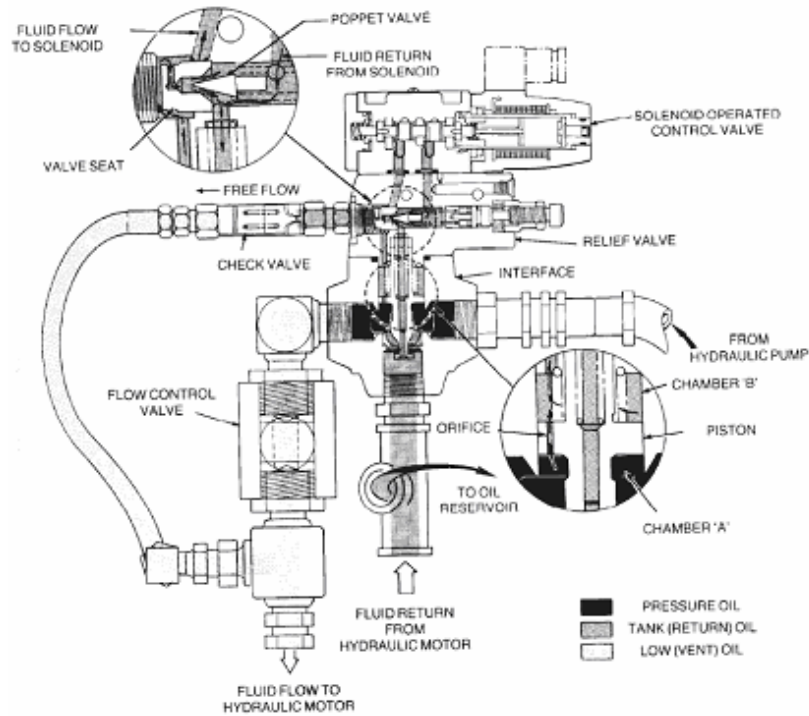

Figure 17 Fluid Flow – Pump Start Switch Off
46. The solenoid controlled relief valve assembly, which comprises the solenoid operated control valve, the relief valve and the interface assembly, directs the flow of fluid within the hydraulic circuit either to the motor or to the oil reservoir. With the PTO ON and the PUMP START switch OFF (solenoid de-energized), pressurized hydraulic fluid flows through the interface to the hydraulic motor, and through the orifice in the piston to the relief valve (Figure 17). As the solenoid is in the de-energized position, fluid flows through the solenoid valve and into the chamber behind the poppet valve, from where it flows to the oil reservoir via the centre drilling in the piston.